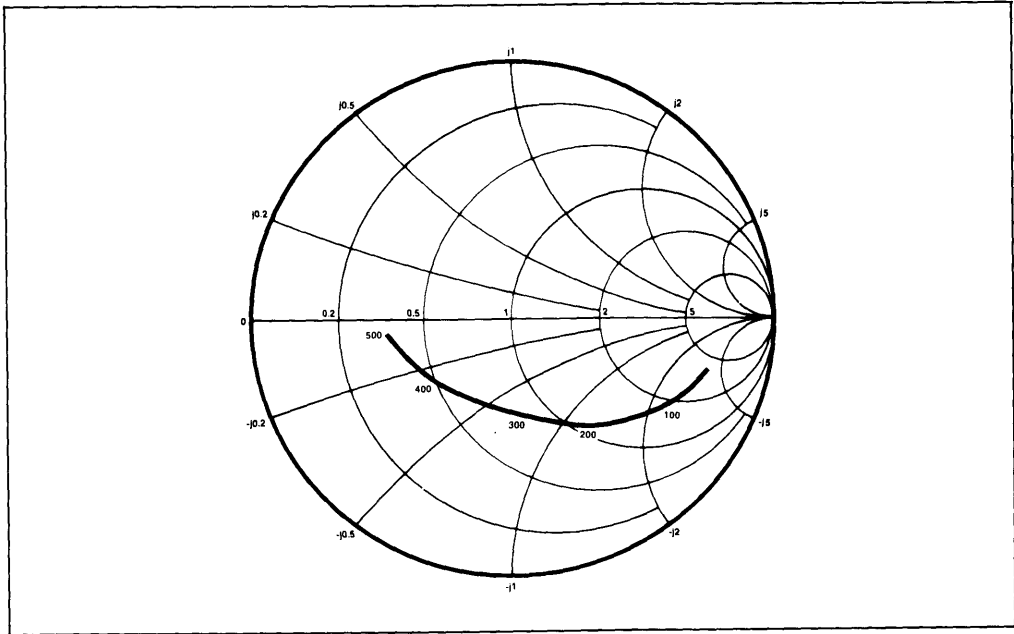

Fig.5 Typical input impedance. Test conditions: supply voltage -5.2V, ambient temperature 25° C, frequencies in MHz, impedances normalised to 50 ohms.
6. The input impedance of the SP8743 varies as a function of frequency. See Fig. 5.